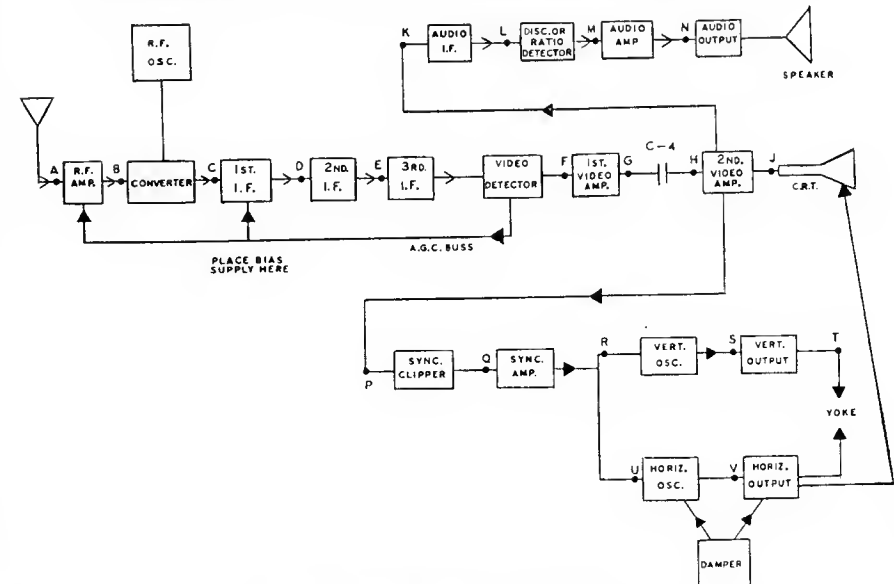

Figure 4—Block diagram of typical TV receiver
The Television Analyst provides the service technician with a powerful tool to quickly and accurately trouble shoot television receivers. Outputs are provided, to enable the service technician to inject signals into any section of a TV receiver to isolate trouble to (1), a section of a receiver, and (2), to the specific stage. In many cases it is also possible to locate the exact defective component. This method of trouble shooting is called signal injection. The Television Analyst provides output signals which can be injected into any of the stages shown in Fig 4. The indication as to whether or not that portion of the receiver is capable of processing the television signal properly is seen directly on the screen of the television receiver being serviced. Signal injection is best accomplished by starting at that portion of the receiver that is farthest from the antenna.
For example:—a defective receiver is to be serviced where the complaint is "no video". Refer to Fig 4. The farthest point from the antenna in this case would be point J, the grid of the picture tube. The high level signal from the Sync output jack would be injected at this point. If the picture tube is capable of showing video, black and white blanking bars running out of sync will be seen. If the Phase of the sync signal is reversed with the Sync Amplitude control the phase of the Black and White bars will be reversed. The signal must of necessity be out of sync since the sync take off point in most receivers occurs in the video amplifier section of the receiver.
Since the picture tube circuits checked out we must now inject a video signal at point H, the grid of the 2nd video amplifier. This video signal is obtained at the Video Output jack on the Television Analyst. If the 2nd video amplifier is working properly the test pattern will be displayed on the picture tube. The signal should also be in sync since the sync take off point occurs in the second video amplifier. The proper phase of video must be selected by means of the Video Polarity switch located directly above the Video output jack. We now move our video test signal to point F, the grid of the first video amplifier, as shown in Fig. 4. Remember to reverse the phase of the video signal to account for the 180 degree phase reversal that occurs in the first video amplifier. If the test pattern failed to appear on the picture tube with the signal injected at point F we would know that our trouble must lie between point H and point F. Obviously the first video amplifier is defective. A few voltage and resistance readings will quickly locate the defective component.
The block diagram Figure 4 shows all the sections of the receiver. By using the Television Analyst we can inject signals at various points in the receiver and by observing the results isolate the difficulty down to a section or single stage. Once the stage has been isolated it is just a matter of checking the individual components in that stage to determine the actual culprit.